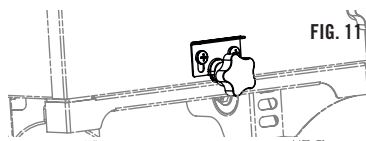

FIG. 11
1. Clean-out Port knob must be pushed in when grill is on. Make sure pullout lock is pushed down and locks the knob to prevent inadvertent opening of the clean-out port. See Fig 11.